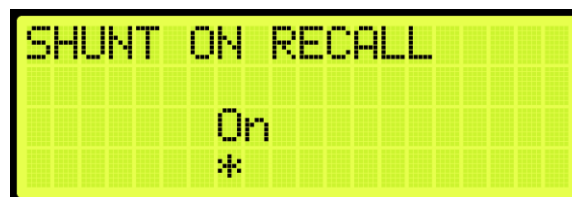

Figure 615: SHUNT ON RECALL Menu
5. From the SHUNT ON RECALL menu, scroll and select On (See Figure 615).